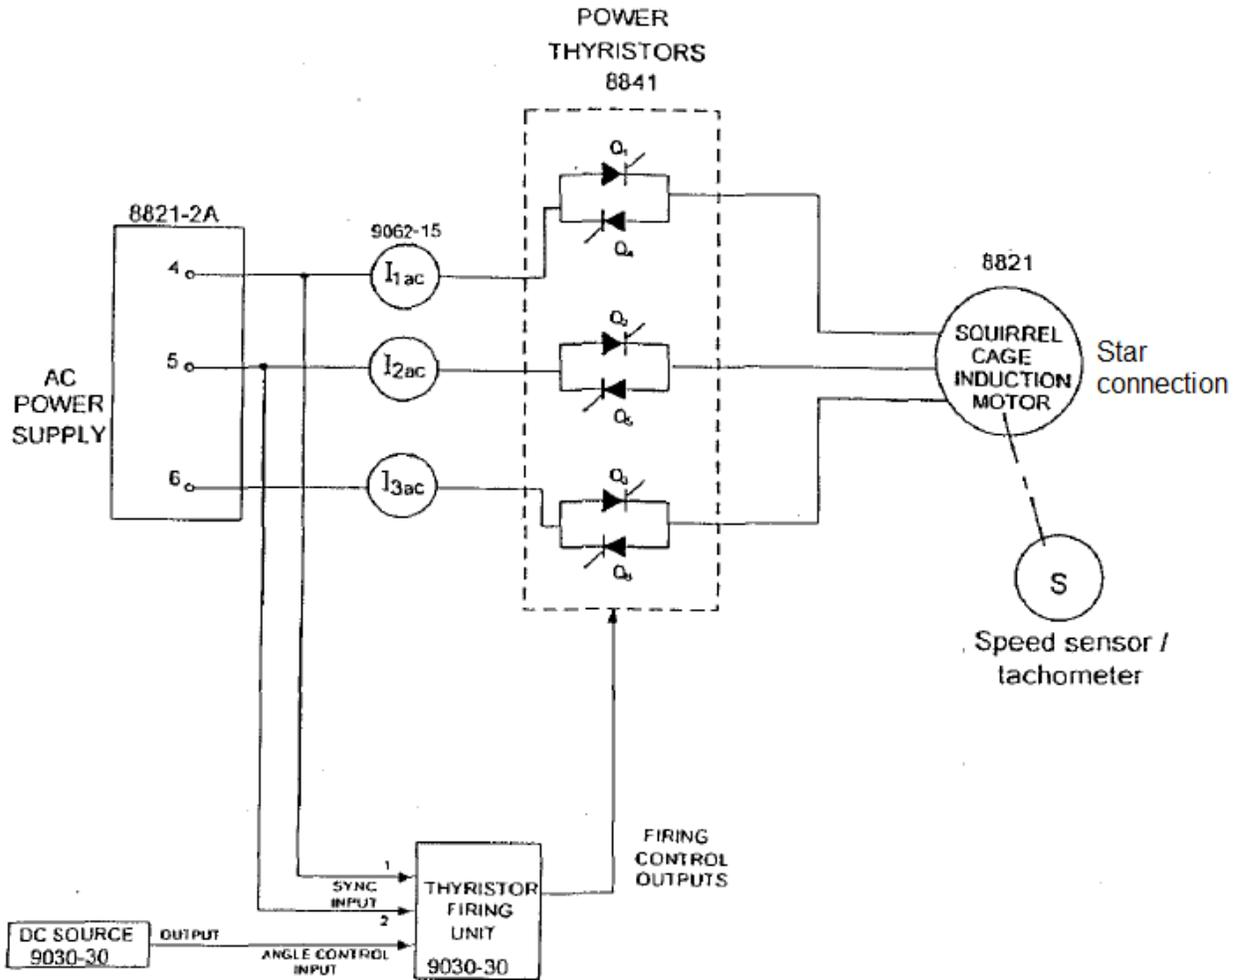

Figure 1
1. Now set up the circuit as shown in Figure 1.